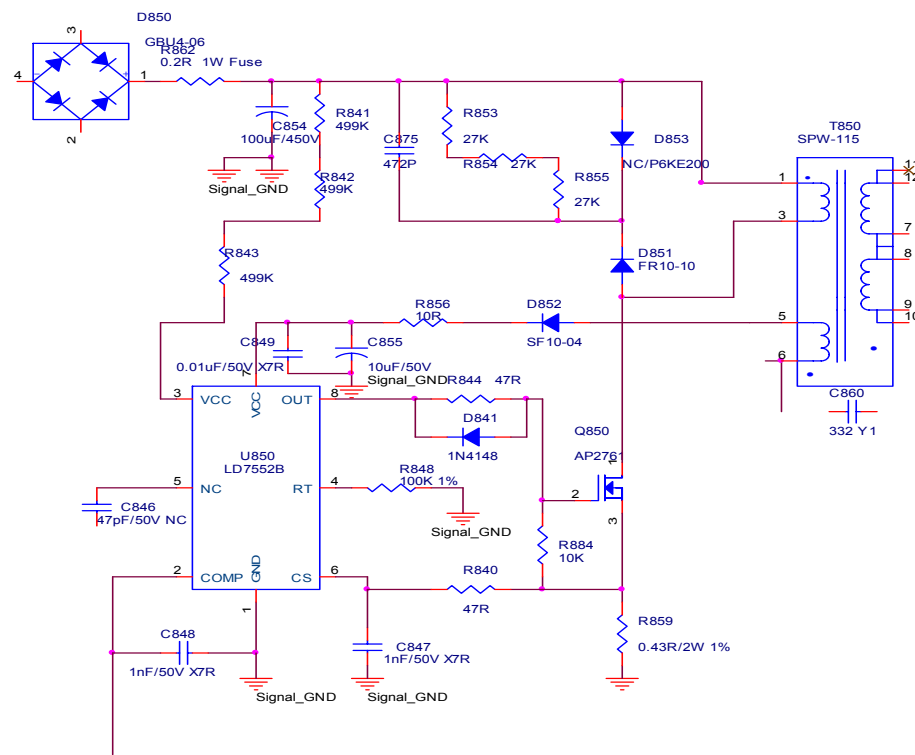

fig.2.2.2
2.2.2 High Voltage to Low Voltage Control Circuit:(fig.2.2.2)